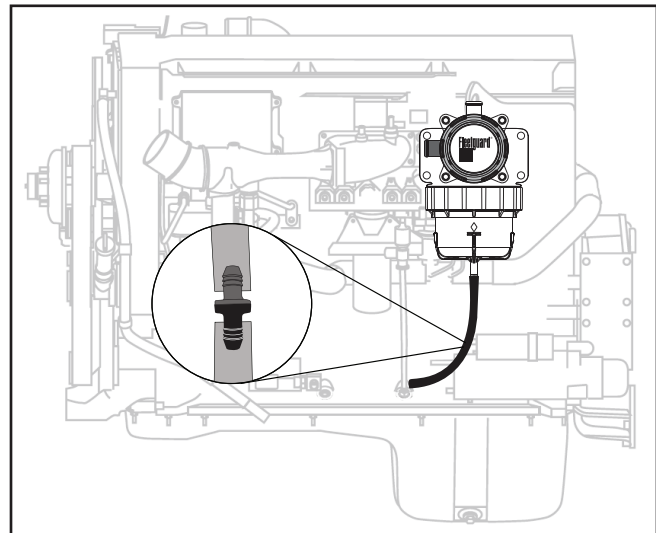

Figure 5 – Connecting to Drain
1. Attach a 3/8" (10 mm) ID hose to the CVM system drain. Attach the other end of the hose to the check valve. Ensure the check valve is oriented properly and in a vertical position. This hose should be long enough so that the check valve is near the drain-back port on the engine. See Figure 5.